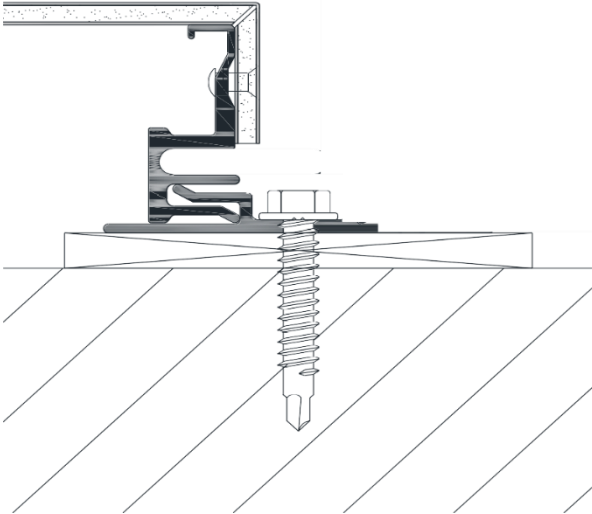

FIGURE 3—ATTACHMENT METHOD
- #10 x 1-1/2 inch self-drilling screws with hex washer head (see Figure 3)